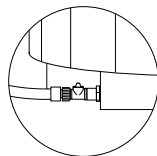

Figure 13.5c
4. Attach one end of your garden hose to the drain valve, Figure 13.5c. Place the other end in an area safe for water runoff.